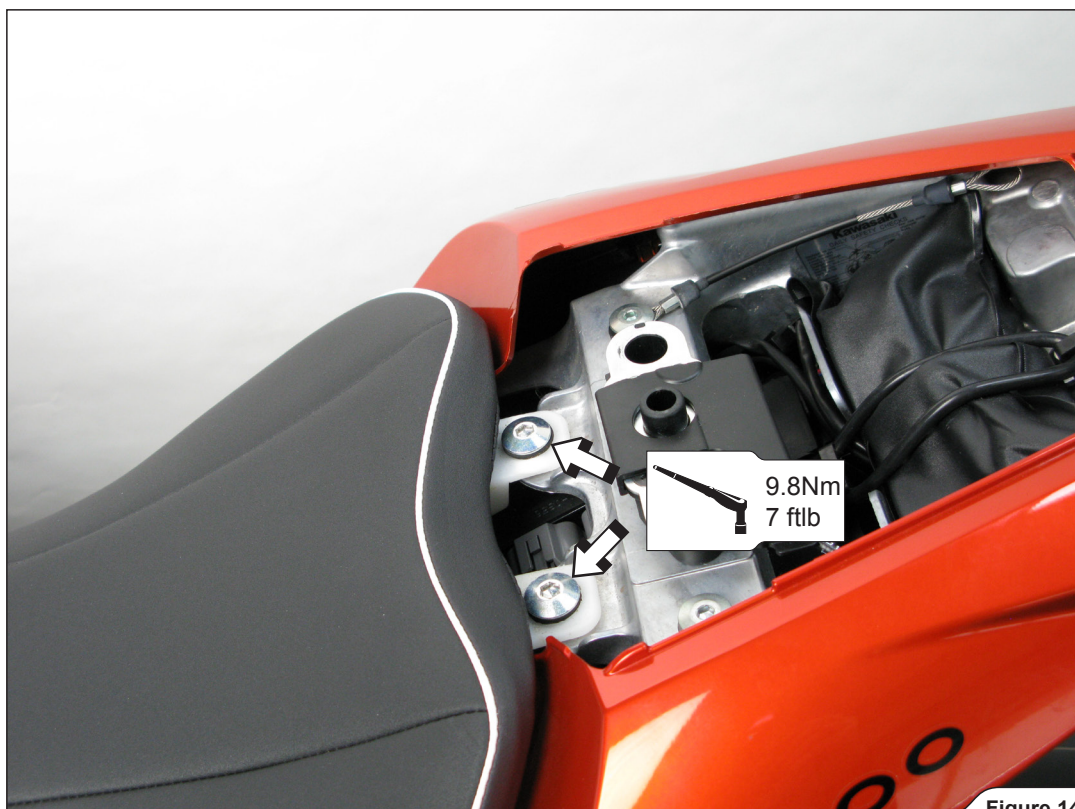

Figure 14
7. Reinstall both seats in the reverse order from the order in which they were removed (**Figure 14**).